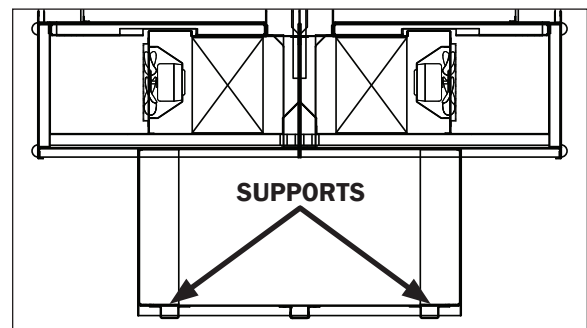

Fig. 2 Horizontal supports
7. Locate horizontal (Fig. 2) or vertical (caster) support positions along the chalk line. Spot properly leveled shim packs at each support location.